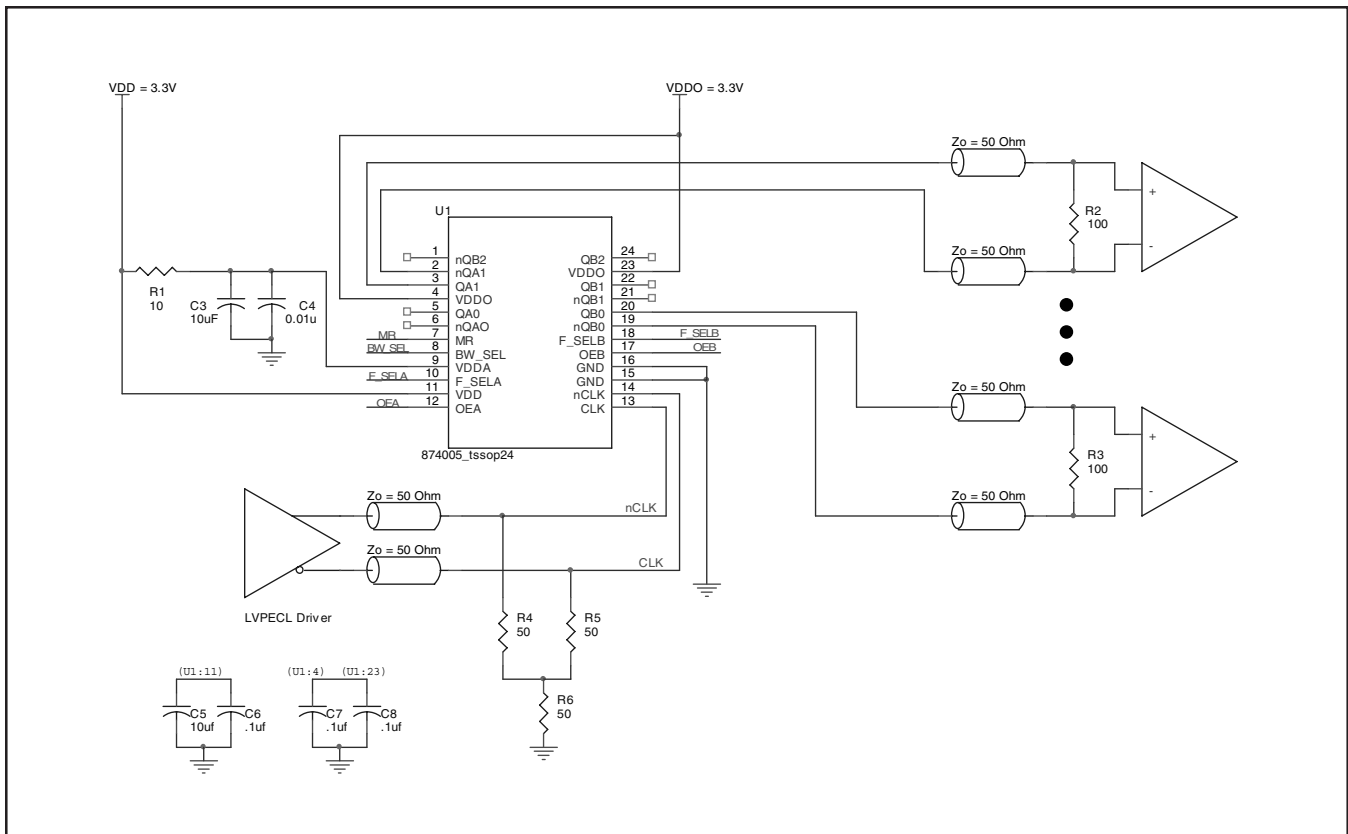

FIGURE 5. ICS874005 SCHEMATIC EXAMPLE
*Figure 5* shows an example of ICS874005 application schematic. In this example, the device is operated at  $V_{DD} = 3.3V$ . The